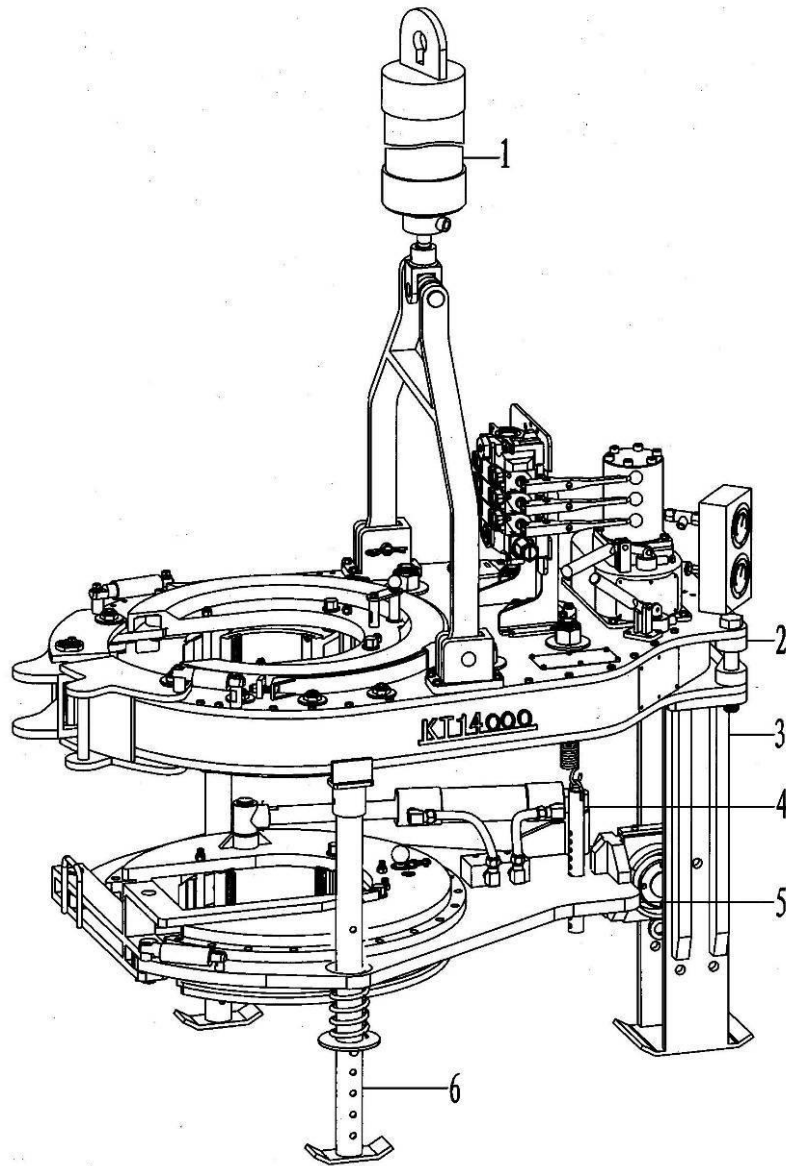

Fig 1
7.1 KT14000 assembly (Fig 1, Table 1)